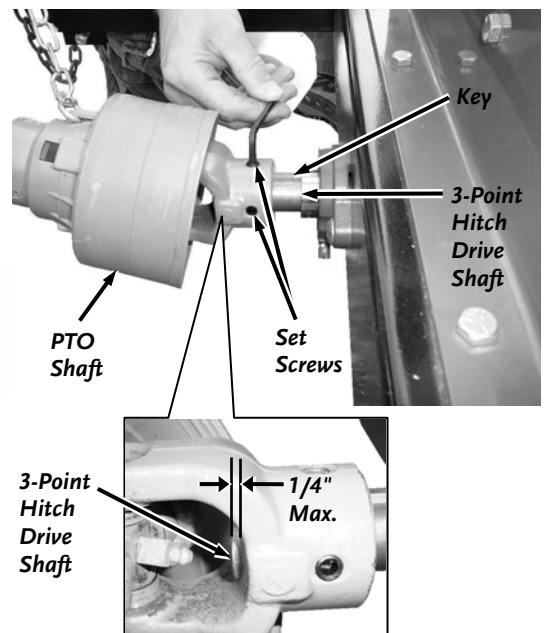

Figure 23
1. Insert the Key into the 3-Point Hitch Drive Shaft of the Chipper (**Figure 23**).